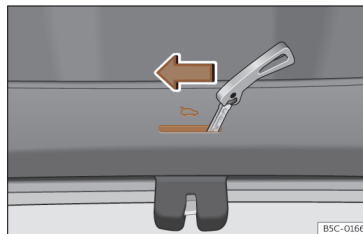

Fig. 74 Luggage compartment: manual release.
- Insert the key blade into the slot and move the key in the direction of the arrow until the lock unlocks >>> **Fig. 74**.